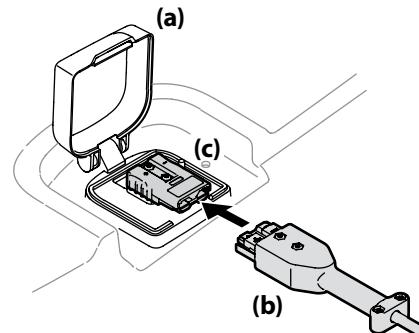

Figure 4-4
1. Lift the charge port door (a), located on the rear body panel of the mower. See Figure 4-4.
2. Insert the charging cord (b) into the charge port (c). Plug charger cord (b) into wall outlet. See Figure 4-4.